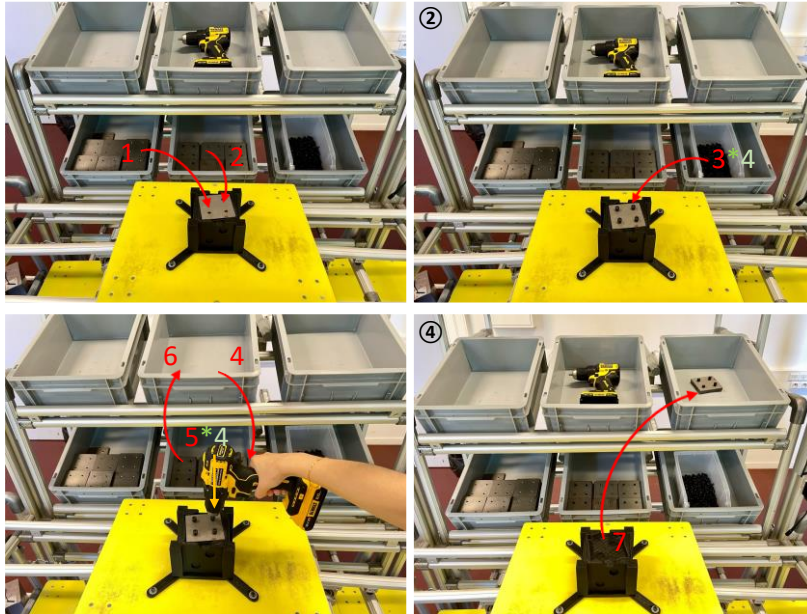

Figure 2: The for main tasks (picking 2 plates, picking 4 screws, screwing and unpicking the final product)
- The **posture characteristics**. To do so, for each main task of the assembly process composed by 5 (as illustrated in Figure 2) several statistics (min, max, average, median and standard deviation) are given for the main joints of the upper body during these working steps.